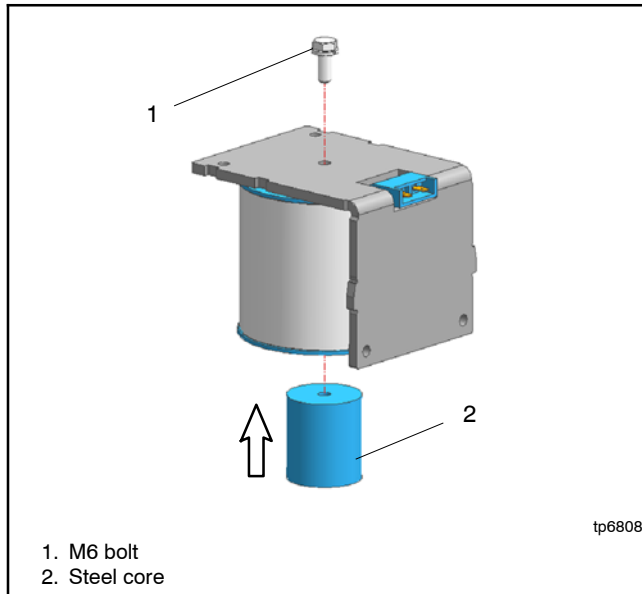

Figure 7-23 Create Coil Assembly
2. Insert the steel core into the coil and tighten the M6 bolt to create the coil assembly. Tightening torque for the M6 bolt: 6 Nm. See Figure 7-23.